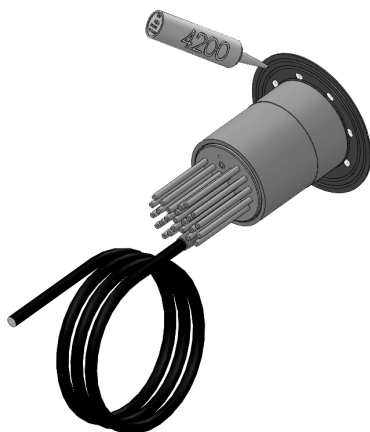

Fig.6.5
**TIP:** Make sure sealant fills in the recess grooves on the reverse of the light head (See Fig.6.5).